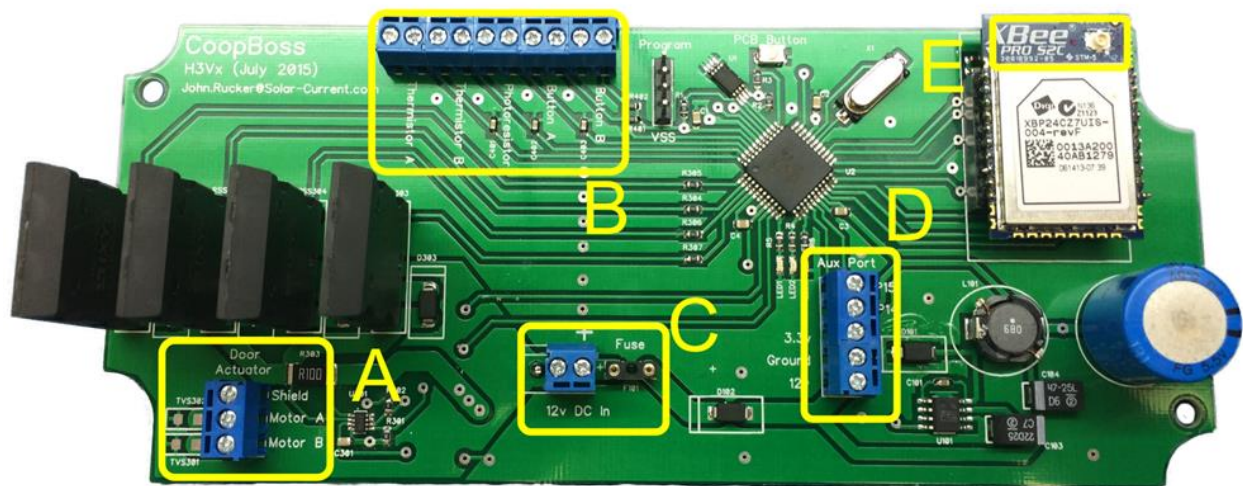

Figure 3 Ports
Figure 3 shows the ports / headers to connect the CoopBoss to the real world.
- d. Place the temperature probe (Figure 2 item D) connected to the header marked Thermistor A (Figure 3 section B) inside your chicken coop and the other probe outside but out of direct sunlight and not exposed to the weather.